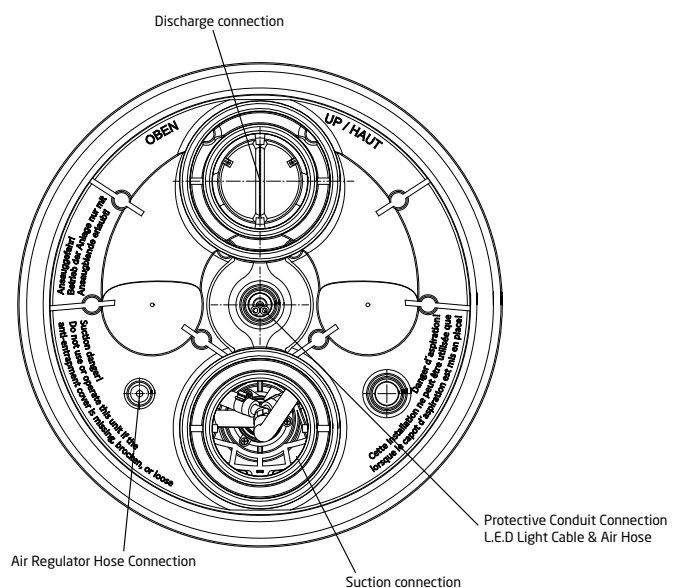

Figure 10
2. Install the protective conduit (refer to Figure 10 on page 14 & Figure 14 on page 16):
3. Install the air regulator hose (refer to Figure 10 on page 14 & Figure 14 on page 16):
CAUTION: Locate discharge connector directly **ABOVE** the suction connection. Discharge and suction connectors must be exactly vertical or the stainless steel handles will not align properly. (See Figure 10)